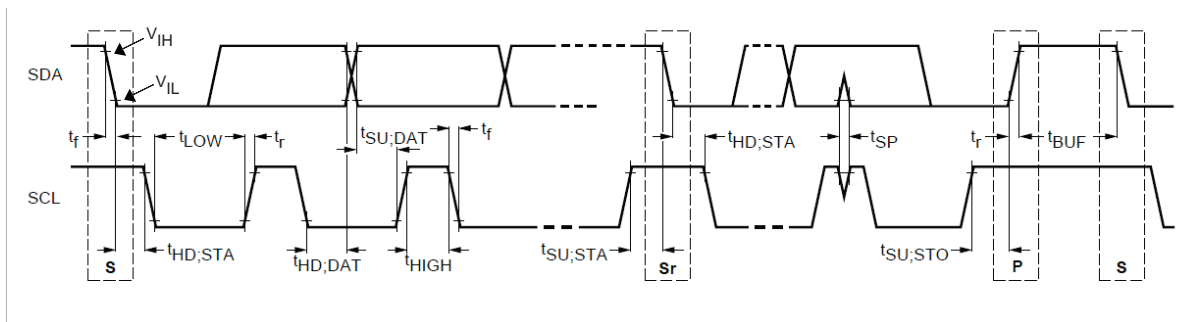

Figure 1. I²C Timing Definitions (reproduced from Phillips I²C spec Version 1.1)
(1) Specified by design. Not production tested.
(2) Refer to Figure 1 for I²C Timing Definitions
(3) C_b = capacitance of bus line in pF
- (1) Specified by design. Not production tested.
- (2) Refer to Figure 1 below for I²C Timing Definitions
- (3) C_b = capacitance of bus line in pF